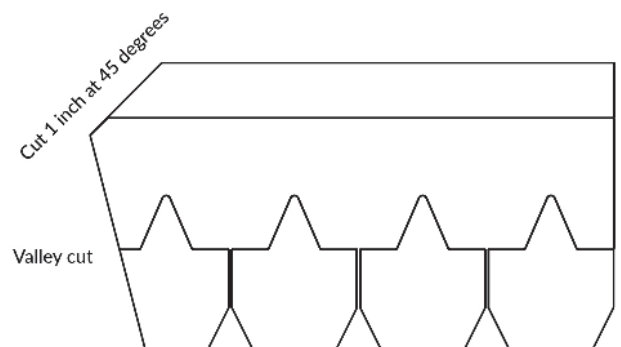

Figure 8
F-Wave recommends the use of an open valley method. For alternative valley installation methods go to f-wave.com and view the current technical bulletin. It is important to note that all valley flashings should be in place before shingles are installed near the valleys. For application, start with a layer of a minimum of 36 inches (915mm) wide smooth-surface, non-granulated, self-adhering waterproofing membrane and apply directly to the roof deck. Next, fasten underlayment over the smooth-surface, non-granulated, self-adhering waterproofing membrane by 6 inches (152mm). Cut the top corner of the shingle going into the valley at a 1 inch (25mm) 45° angle. See Figure 8.
- Apply the first course of shingles along the eave until it meets the center of the valley. Trim the valley shingle so that it matches the chalk line and also has a 1 inch (25mm) 45° angle cut from the top of the shingle. See **Figure 8**.